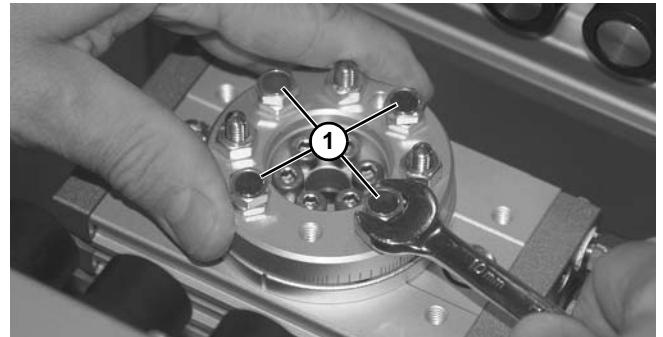

Figure 50
*If adjustment is needed, remove lift and rotate plate and adjust nuts on four magnetic posts (**Figure 50, item 1**), as needed. Secure position by tightening bottom nuts.*